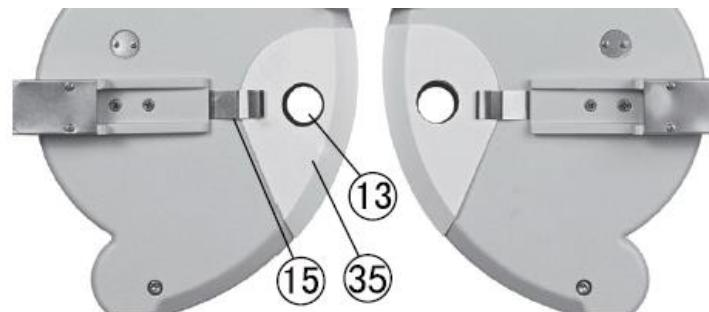

Fig.10
Attach face shield ⑤ so that face shield clip ⑮ catches it. Then align face shield aperture with examination aperture ⑬ (Fig.10).